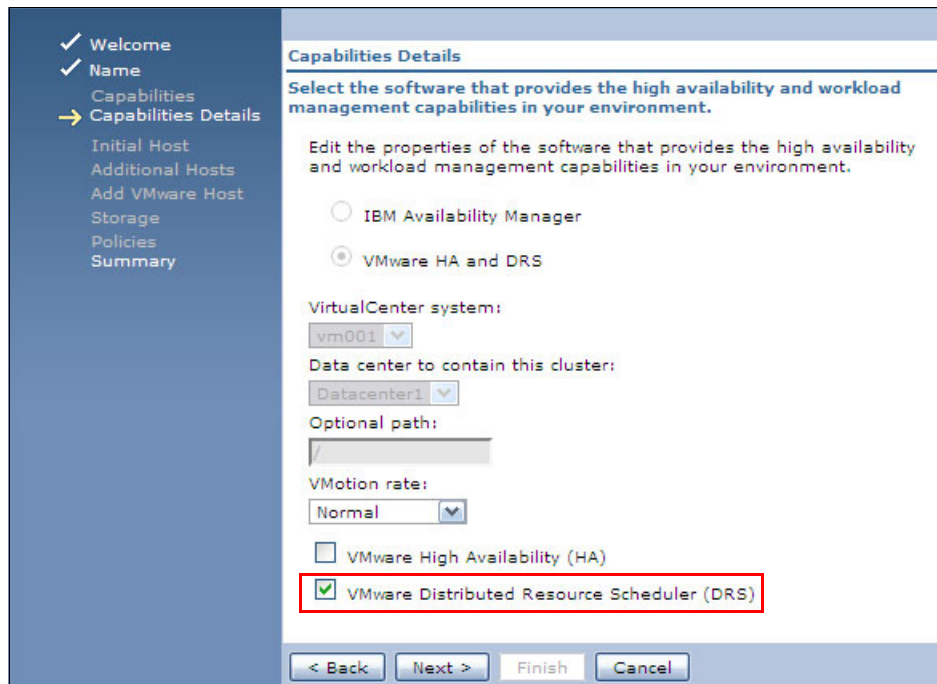

Figure 11-52 Edit Virtual Farm Capabilities Details window
5. Select **VMware Distributed Resource Scheduler (DRS)** and leave VMotion rate as Normal, as shown in Figure 11-52. Click **Next**.